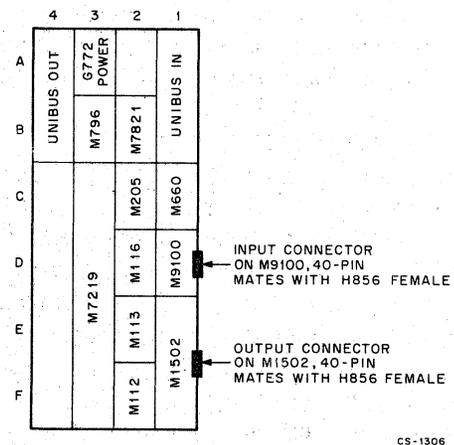

Figure 2-3 DECKit11-D Slot Assignments - Module Side
Figure 2-3 shows the DECKit11-D slot assignments from the module side. After installation, secure the modules with the H852 and H853 module holders. Fasten one H852 module holder between module locations E and F, fasten the other H852 between locations C and D. The H853 module holders are fastened between module locations D and E, and B and C. Slots AB01 and AB04 are the Unibus I/O slots. The use of these slots varies with the type of installation (Paragraph 3.3.1).
Installation of DECKit11-D into a cabinet containing other system units requires an M920 Unibus connector module. The M920 module plugs into slot AB04 of the existing system unit and into slot AB01 of the kit (Figure 2-3). When the kit is installed as the first system unit in an expansion box, a BC11A-XX\* cable (of correct length) is required to connect between slot AB04 of the last system unit in the cabinet or previous expansion box and slot AB01 of the kit.
Neither the M920 module nor the BC11A-XX\* cable is supplied with the kit. An M930 terminator module must be installed in slot AB04 of the kit (Figure 2-3) when the kit is the last device on the Unibus. The M930 module becomes available when the Unibus is extended from the previous system unit.
There are three wire harnesses available for use in connecting the DECKit11-D to PDP-11 systems. Each expansion mounting box is equipped with a wire harness, terminated with a G772 connector, to mate with power connector slot A03 (Figure 2-3) of the kit. Early PDP-11
Two cable assemblies are required for transferring the user's I/O device 16-bit data words to and from the DECKIT11-D. Input signals to the kit are applied through a 40-pin male connector, mounted on the M9100 module in slot D01 (Figure 2-3), while output signals from the kit are brought to a 40-pin male connector on the M1502 module in slot EF01 (Figure 2-3). It is recommended that cable assemblies from the following list be used to interface the kit with the user's I/O device. Cable selection is determined by the type of connections used on the I/O device. The desired cable length (XX) must be specified when ordering.
2. Plug Unibus cable or an M920 Unibus connector module (whichever applies) into slot AB01 (Figure 2-3) of the kit.
The user's I/O device cables can now be connected to the kit at the M9100 module (slot D01) and the M1502 module (slot EF01), (Figure 2-3).